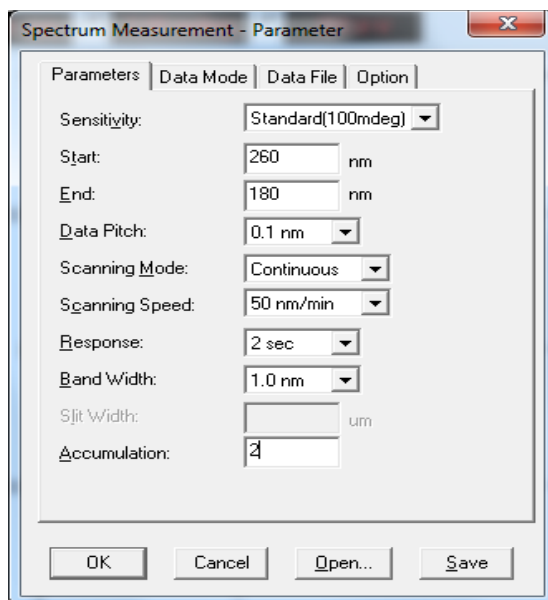

Figure 3. Setting Acquisition Parameters.
5.2.1 To collect CD spectra, click on 'Measurement' on the menu, select 'Parameter' (Figure 3), and set required parameters for data acquisition.